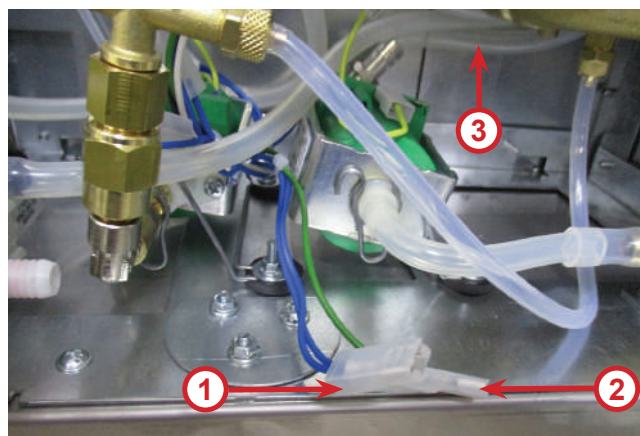

Fig 4.14b
- Connect the silicone tube and power connectors to the electric valve (see fig.4.14b);